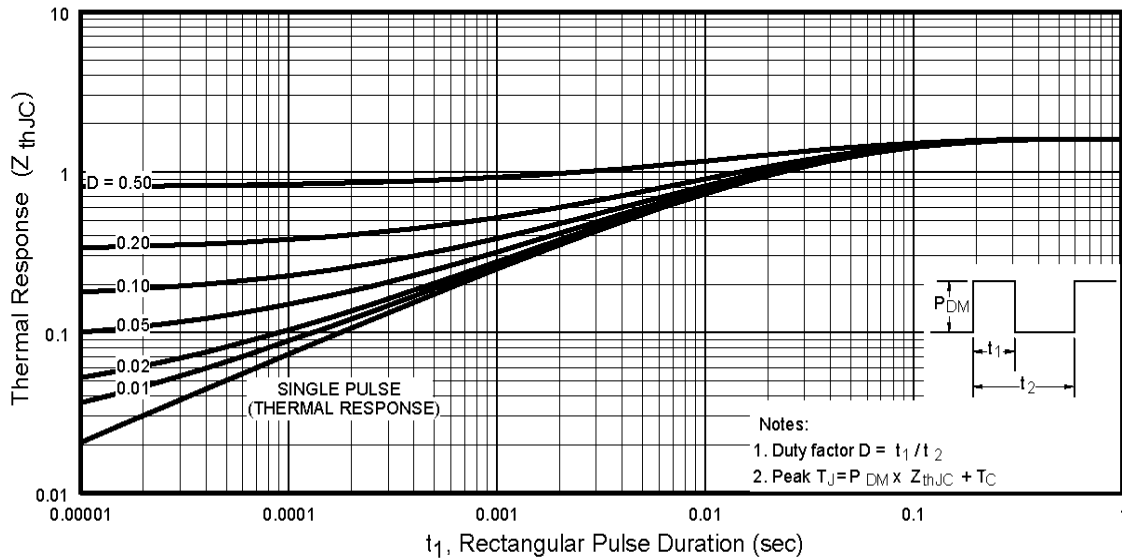

Fig 11. Maximum Effective Transient Thermal Impedance, Junction-to-Case
- ① Repetitive rating; pulse width limited by max. junction temperature. (See fig. 11)
- ② $V_{DD} = 25V$, starting $T_J = 25^\circ\text{C}$, $L = 4.9 mH$